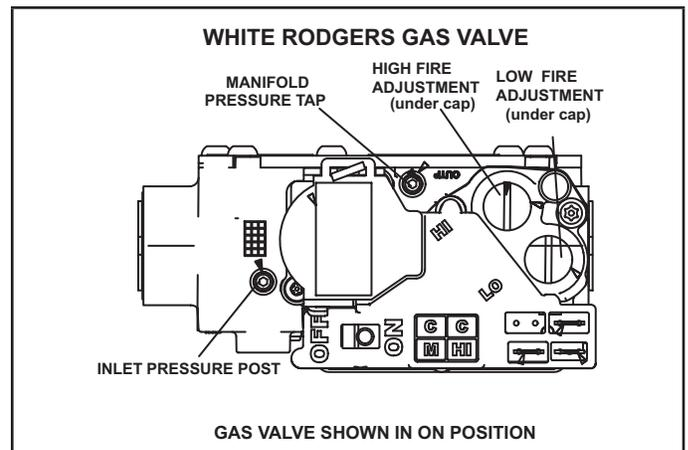

FIGURE 57
Gas Valve Operation (FIGURE 57)
- 6 - Move gas valve switch to **OFF**. See FIGURE 57.
- 8 - Move gas valve switch to **ON**. See FIGURE 57.
An inlet pressure post located on the gas valve provides access to the supply pressure. See FIGURE 57. Back out the 3/32 hex screw one turn, connect a piece of 5/16 tubing and connect to a manometer to measure supply pressure. See TABLE 17 for supply line pressure.
A manifold pressure post located on the gas valve provides access to the manifold pressure. See FIGURE 57. Back out the 3/32 hex screw one turn, connect a piece of 5/16 tubing and connect to a manometer to measure manifold pressure.
- 5 - If necessary, make adjustments. FIGURE 57 shows location of high fire and low fire adjustment screws.